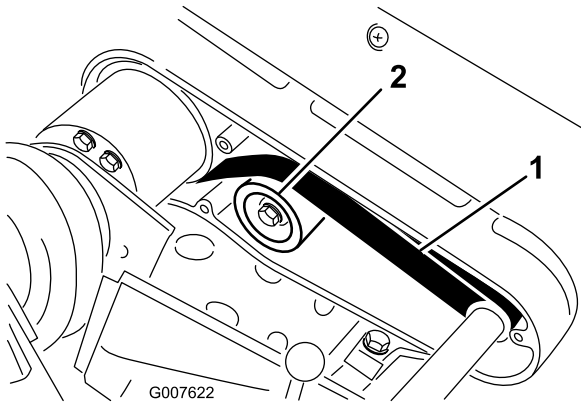

Figure 37
2. Check the tension by pressing the belt at mid span of the pulleys (Figure 37) with 5 to 6 lb of force. The belt should deflect 1/4 inch.
- A. Loosen the idler pulley mounting nut and pivot the idler pulley clockwise against the backside of the belt until the desired belt tension is attained (Figure 37).